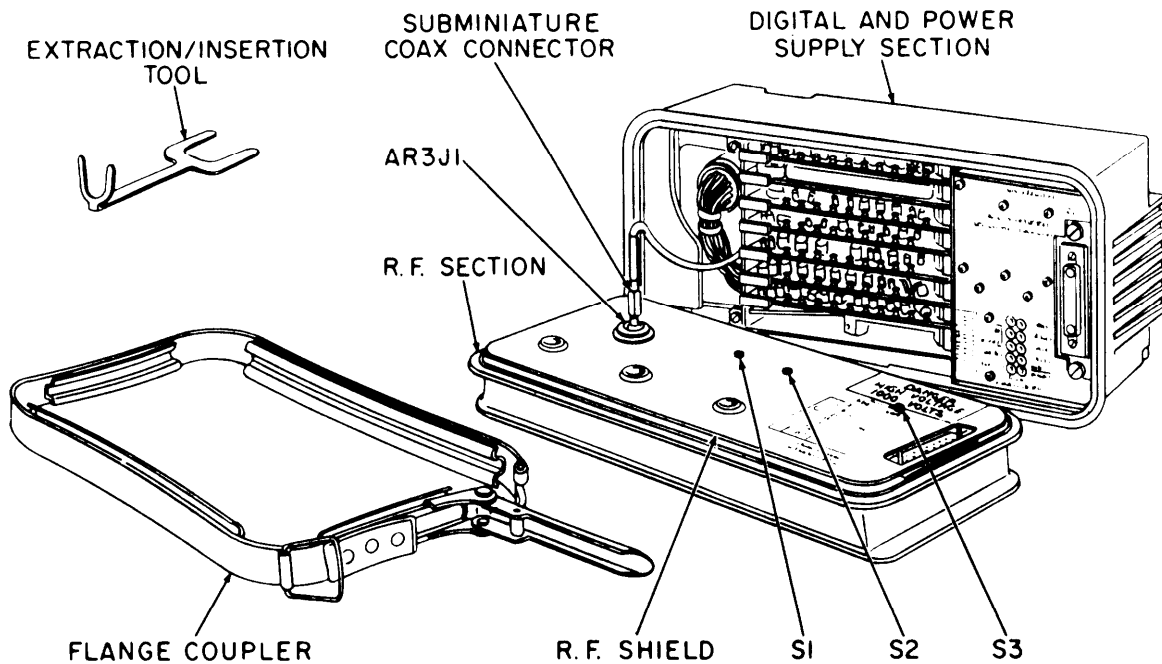

Figure 4-16. RT-859/APx-72, Disassembly
4-19. SEPARATION OF ASSEMBLIES. The RT-859/APx-72 separates into two sections: the rf section and the digital and power supply section (see figure 4-16) .
Disconnect subminiature coax connector (see figure 4-16) from video output jack AR3J1.
Remove screws (S1, S2, and S3 figure 4-16).
b. Remove rf shield (figure 4-16).
Use connector extraction/insertion tool (figure 4-16) supplied with Test Set, Transponder AN/APM-239. Insert rounded edge of tool and disconnect with an upward pull.